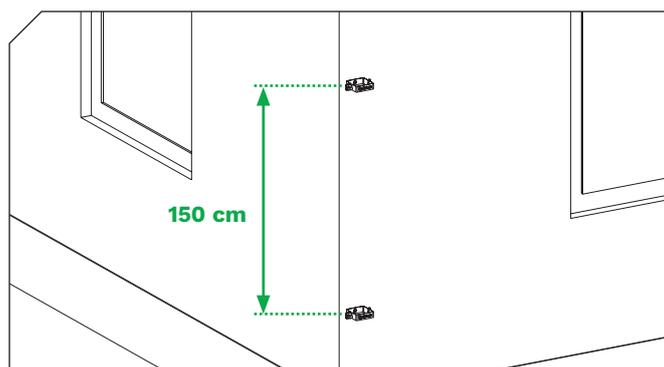

Figure 21
8.4 Insert the downspouts in the clamps and connect them with a union sleeve (Fig. 21).